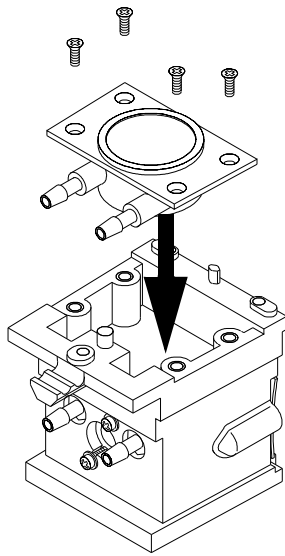

Figure 14 Installing the cell stirring module
- 3 Insert the cell stirring module into the cavity in the base of the thermostatable cell holder, see Figure 14.